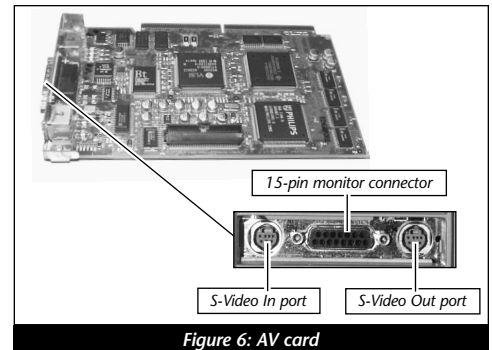

Figure 6: AV card
- **AV Card** – The AV card has a single 15-pin monitor connector for a monitor and S-Video In and S-Video Out ports (**Figure 6**) that support Audio/Video features.